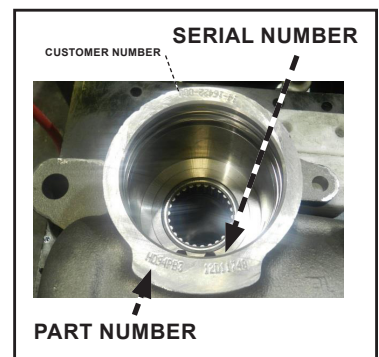

Figure 3 – Style 3
*Style 3:* The serial number and part number should be displayed on one line with a space between the part number and serial number. This style will also have a customer number printed on the housing opposite of the part number and serial number. See *Figure 3*.